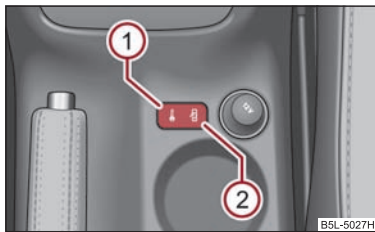

Fig. 26 Centre console: Buttons for central locking
- Press button **1** ⇒ fig. 26. The symbol in the button comes on.
- Press button **2** ⇒ fig. 26. The symbol goes out in the button.